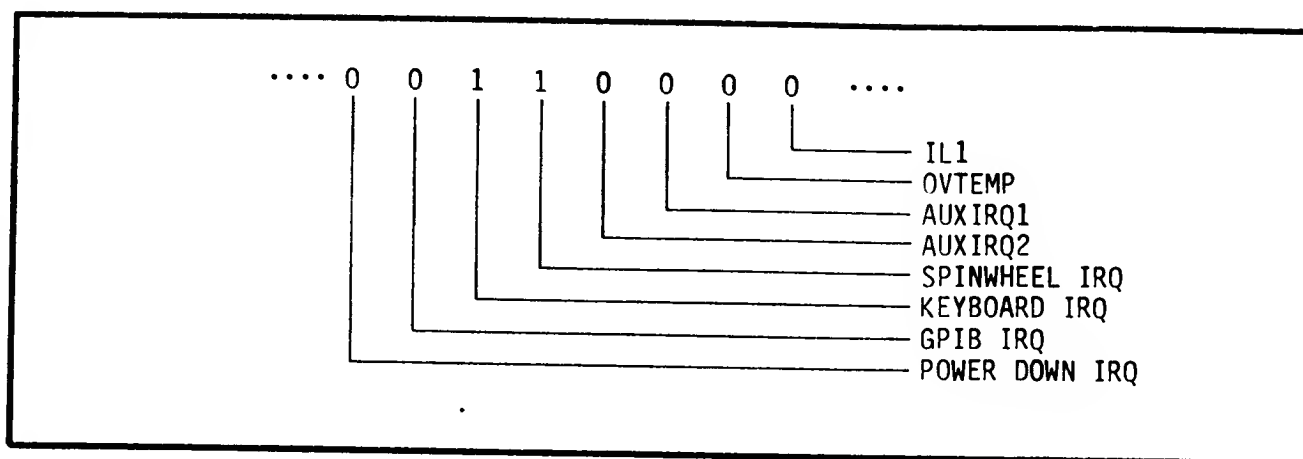

Fig 7.6 Interrupt Buffer Display
7.4.14.1 Special function 98 puts the microprocessor into its non-maskable interrupt routine. The contents of the first interrupt buffer are displayed in the frequency display, as shown in Fig 7.6. The occurrence of an interrupt is represented by a '1' in the display. The servicing of interrupts is inhibited while the special function is active, so that the buffer will not be cleared while the contents are being examined. If a key is pressed, the key code appears in the modulation display and the beeper sounds.